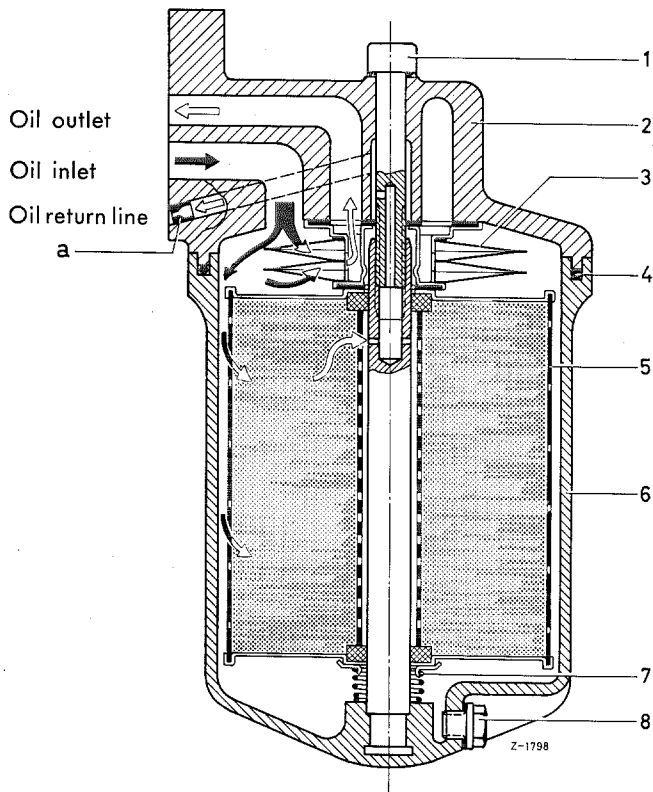

Figure 18-7/6
- b) Combination main and by-pass oil filter,** installed in engines of types 621.912 (model 190 Dc) and 621.913 (L and O 319 D) (see Figure 18-7/6).